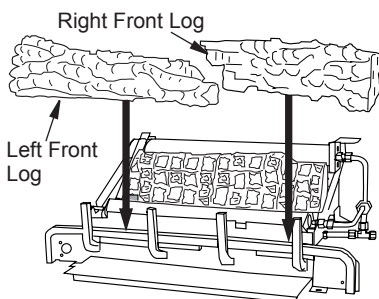

Figure 29 - Installing Left/Right Front Logs
2. Place front left and front right logs as shown in Figure 29.